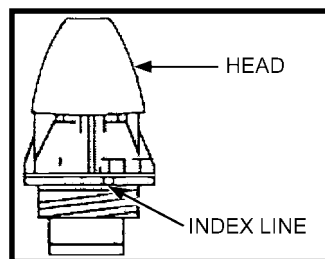

Figure 7-21. Setting the M734 multioption fuze.
- (3) See the firing table for the correct time setting.
- (4) Remove the fuze safety pin or wire before firing.
- d. **M734 Multioption Fuze** (Figure 7-21). Fuze can be set by hand by rotating the fuze head (clockwise) until the correct marking (PRX, NSB, IMP, or DLY) is over the index line.